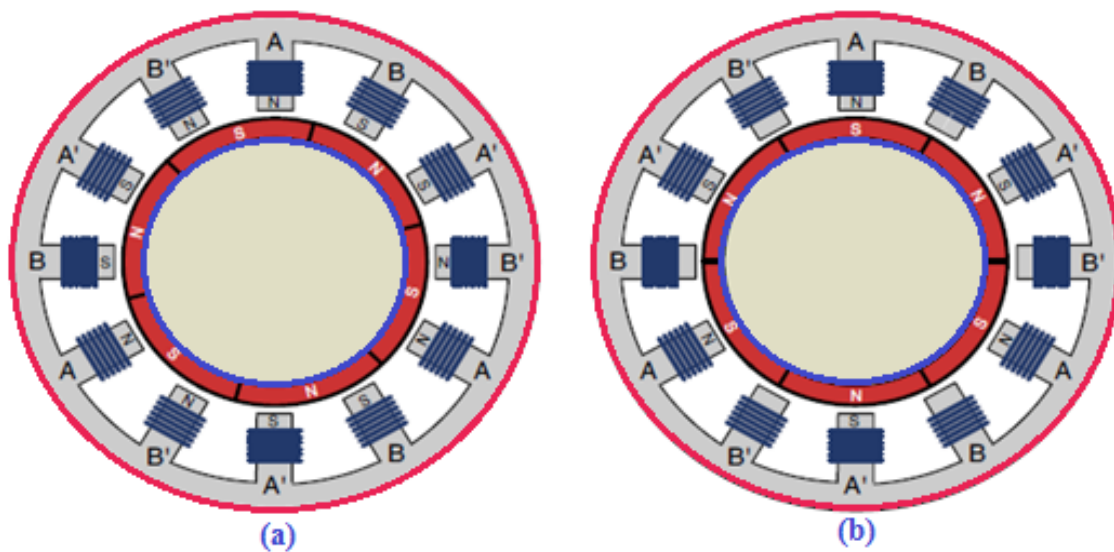

Fig.3.16 (a) & (b) Stepper rotation in half step mode
- That is, the controller alternates between energizing one winding and two windings. Figure 3.16 depicts three rotations of a stepper in half-step mode.